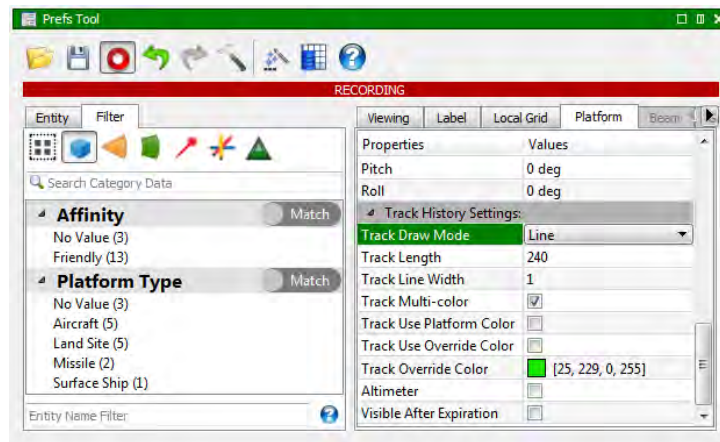

Figure 5.15: Preference Rules for Platform Track Line
7. Change the **Track Length** value to **240**. The value represents a platform's history trail in seconds. See Figure 5.15 for reference.
7. Click **Use Override Color** checkbox. See Figure 5.15 for reference.